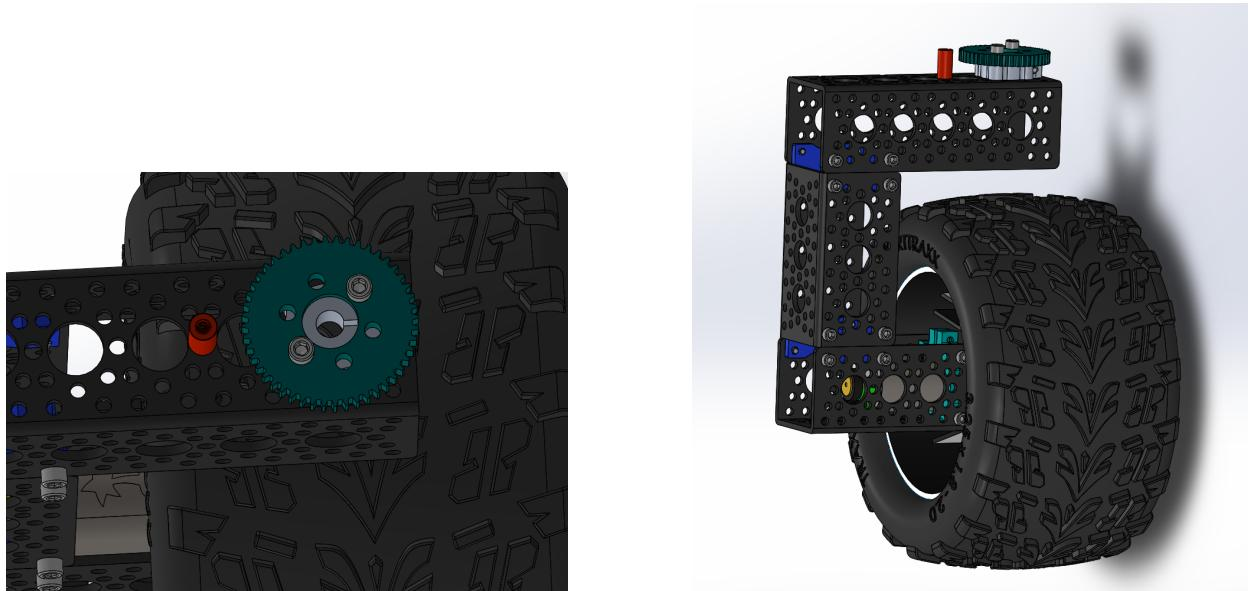

Figure 7: Corner Wheel Step 3
3. **Preparing the 4.5 inch Channel - Hard stop mount:** In order to keep the wheels from spinning too far in either direction, we will install a physical hard stop in the system. Attach a standoff **T3** with screw **B1** and Loctite Threadlocker **S34** to the channel as shown in Figure 7. This standoff will be our hard stop. Make sure that